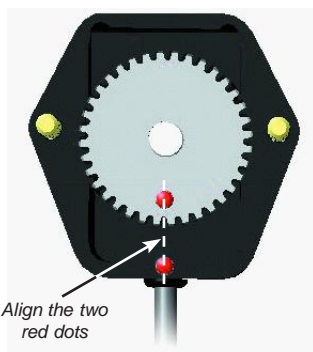

Fig B25 - Calibrating the rudder feedback unit
- iii) Calibrate the RFB by aligning the two red paint marks on the underside of the unit (Fig B25).